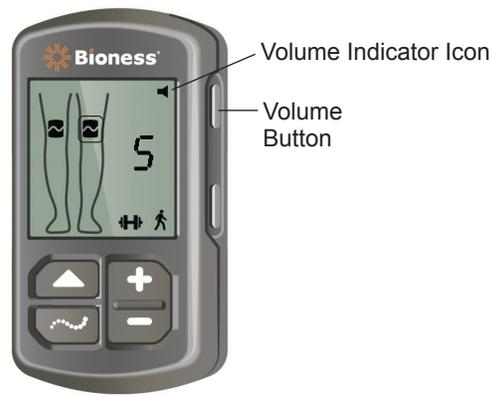

Figure 4-9: Volume Button on Control Unit
1. Press the Volume button on the Control Unit. See Figure 4-9. The Volume Indicator icon in the upper right corner of the digital display will disappear.
1. Press the Volume button on the Control Unit. See Figure 4-9. The Volume Indicator icon in the upper right corner of the digital display will appear.